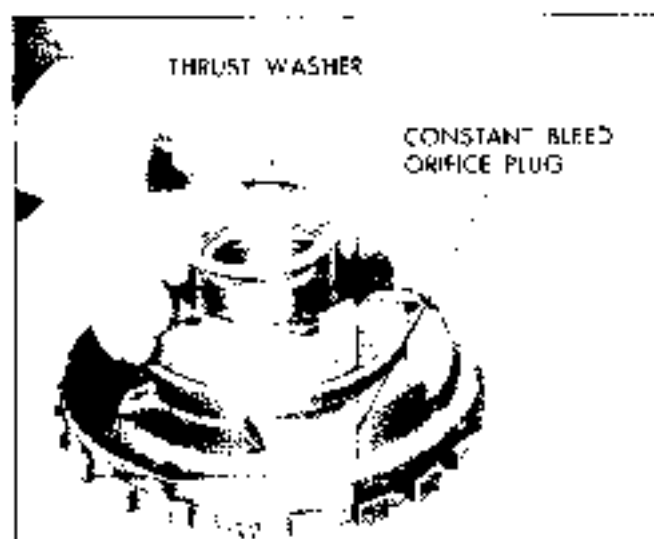

Fig. 7E-133 Installing Center Support to Reaction Carrier Thrust Washer
17. Install roller clutch into reaction carrier outer race (Fig. 7E-135).